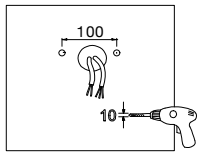

Figure 9
**2. Yoke Mounting (YM)**
STEP 1: Drill holes on the wall as shown. (FIGURE 9)